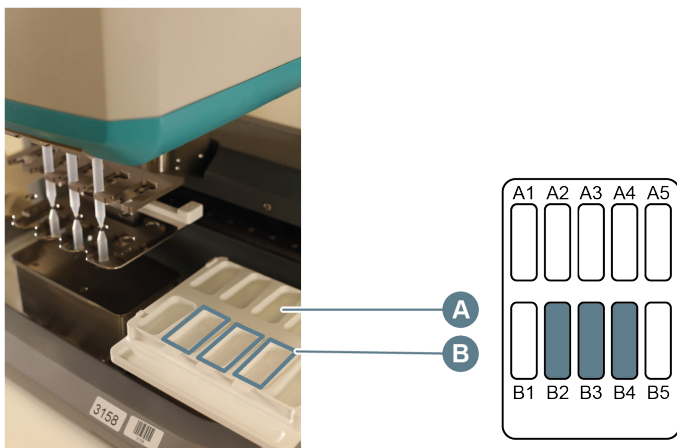

Figure 10. Reservoir tray in filling position
3. Slide the reservoir tray to the filling position (A) and place three new reservoirs in position B2, B3 and B4 (B) (Figure 10).